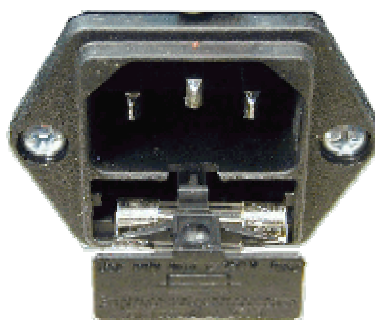

Figure 6 Changing the mains fuse
2. Open the fuse drawer in the mains connector R9 (see Figure 6) with a screwdriver.